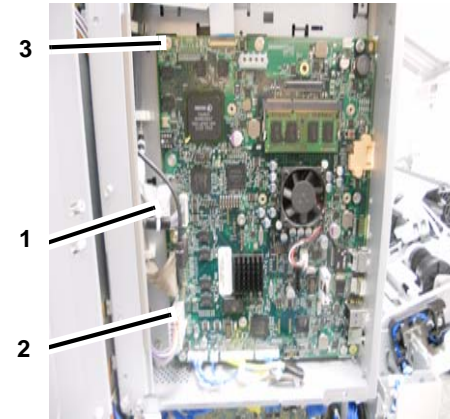

Figure 4 Removing the SBC PWB
6. Remove the SBC PWB. (Figure 4)